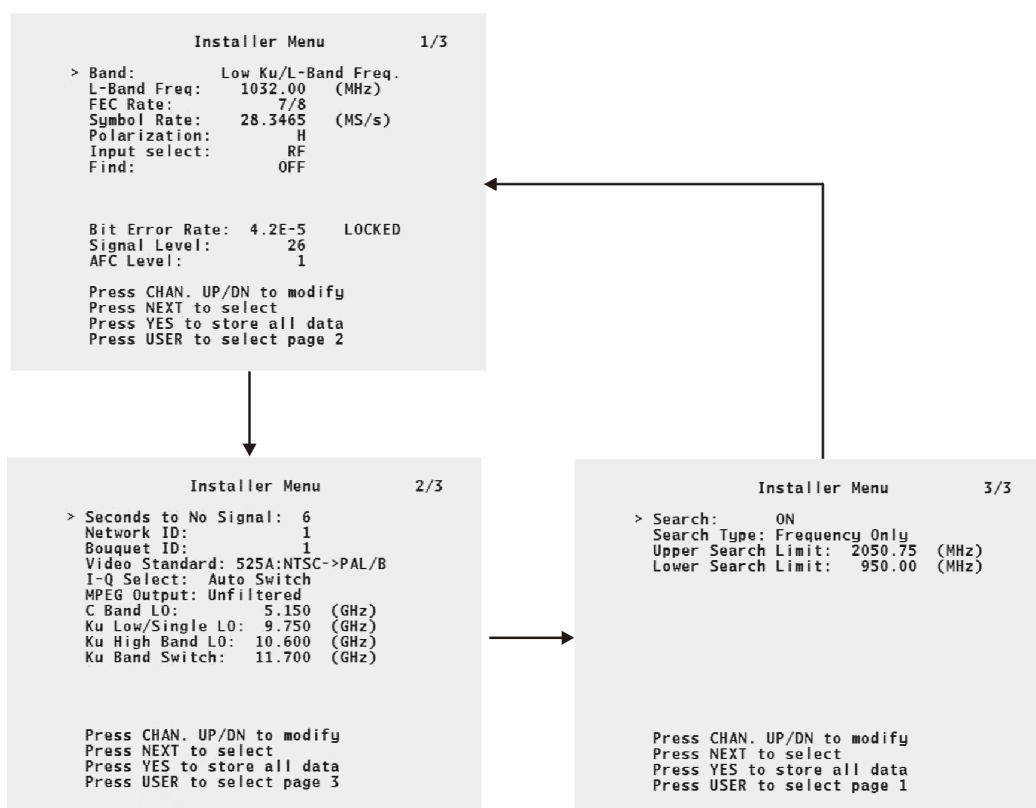

Figure 3-8. Installer menu (pages 1, 2 & 3)
- Step 1.** Press USER to display page 1 of the Installer menu, if required (see Figure 3-8).